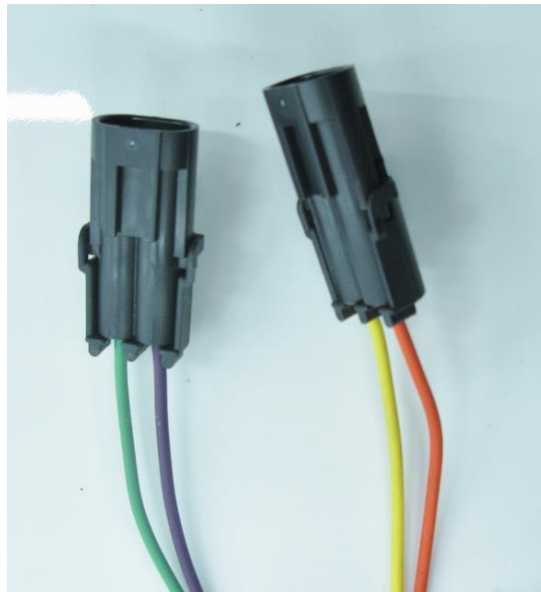

Figure 23 – Install Weatherpack Connectors
20. Remove the masking tape from the terminal ends and insert them into the supplied Weatherpack connectors. On the connector body, the cavities are labeled “A” and “B.” On the driver’s side, the orange wire should be inserted into the cavity labeled “A” and the yellow wire into cavity “B”. On the passenger’s side, insert the purple wire into cavity “A” and the green wire into the cavity labeled “B.” Terminals should “snap” into place. Once the terminals are installed, snap the cover over the wires (Figure 23 on the next page).